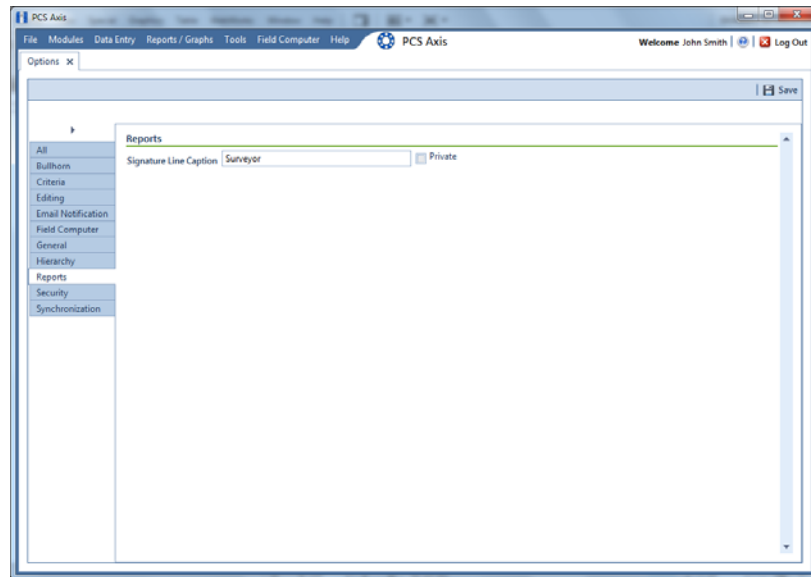

Figure 3-12. Reports
- 2 Click the **Reports** tab to open the *Reports* option page (Figure 3-12, page 48).